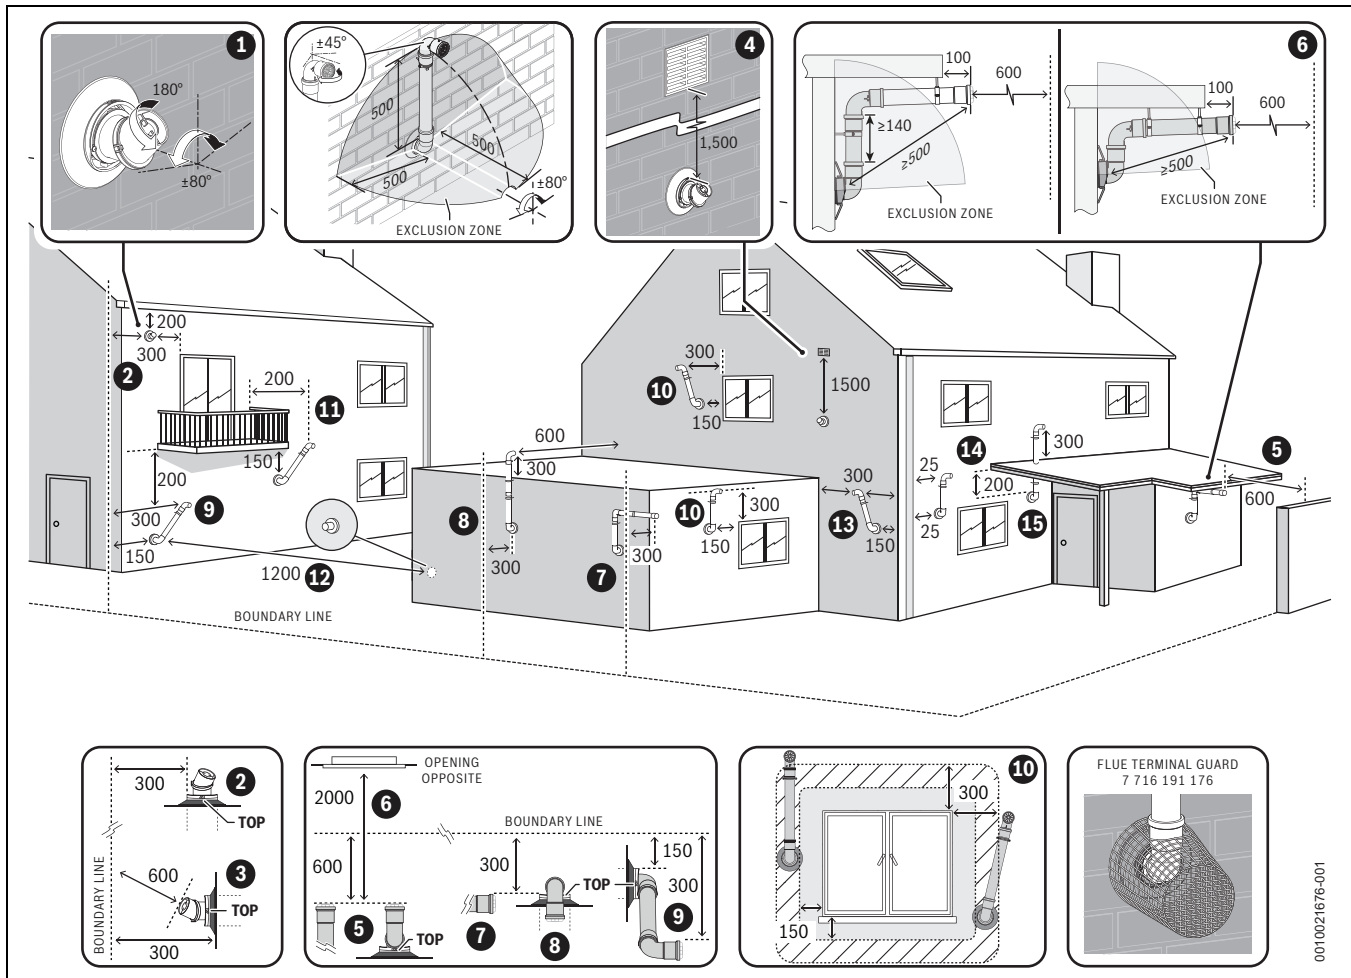

Fig. 33 Plume re-direct and plume management terminal positions
- ▶ Refer to “Horizontal flue terminal positions” for all concentric flue terminal positions unless the flue position is specified in figure 33 “Plume re-direct and plume management terminal positions”.
**Key to figure 33**